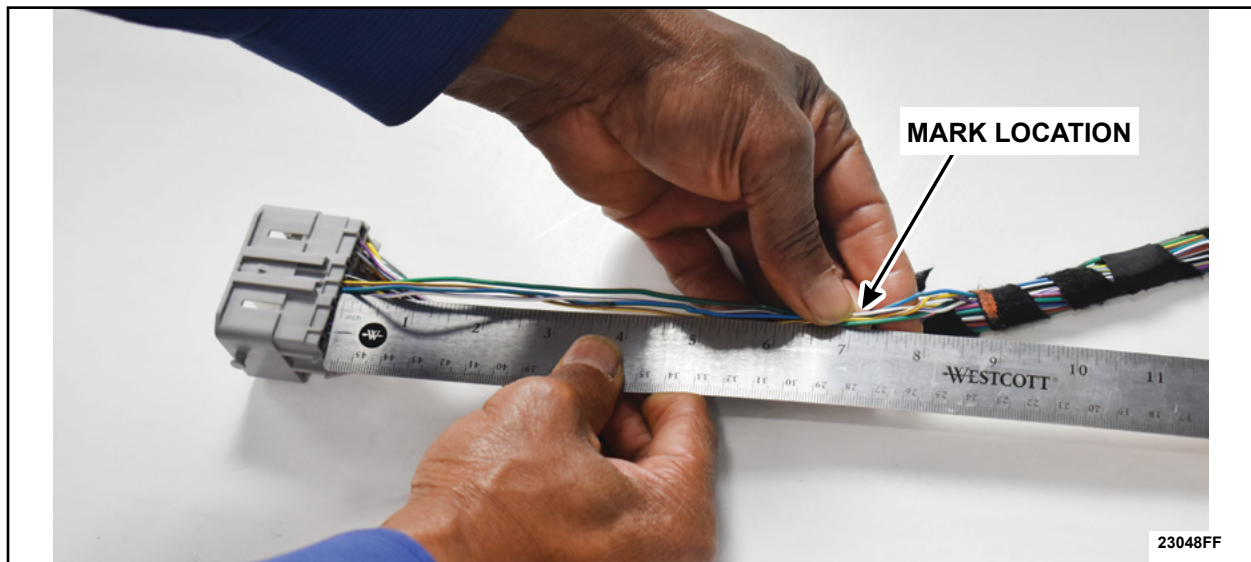

FIGURE 7
7. Starting at the connector end, measure 7 in (178 mm) down all four (4) wires and mark the location. See Figure 7.